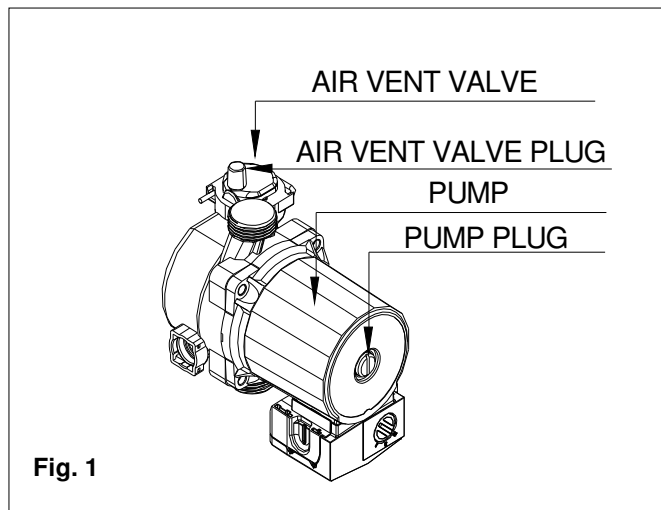

Fig. 1
- Check that the plug of the air vent valve has been slackened slightly to allow air to escape from the system (fig.1);